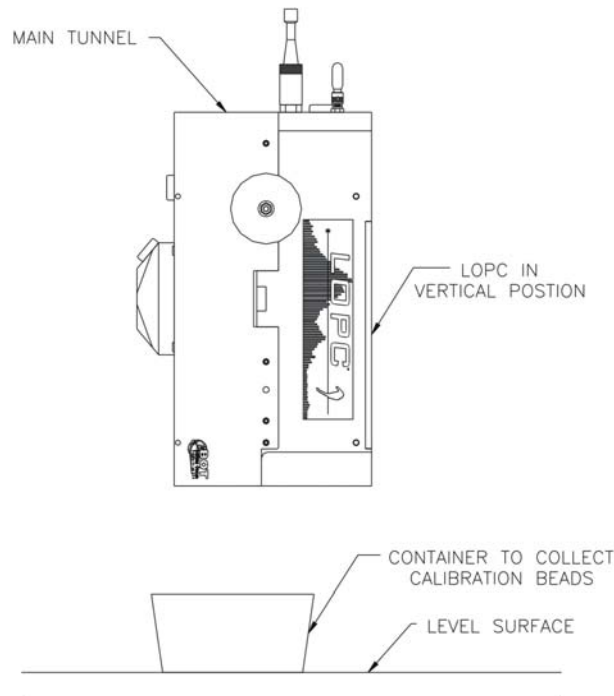

Figure 8
1. Position the LOPC with the tunnel in a vertical orientation, such as in Figure 8.